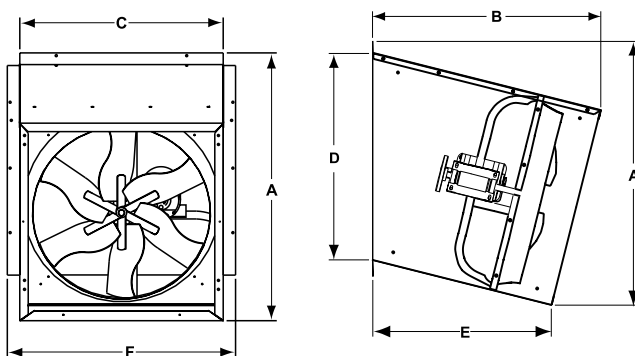

Figure 2
- To install a fan mounted in a galvanized steel slant wall housing when the wall thickness is 4" or less, provide a rectangular opening in the wall equal to dimension in Fig. 1. It is preferable to frame the opening with 2 X 4 material, or a metal frame in metal building or greenhouses. When the wall thickness is more than 4", the height of the rectangular opening should be 1 inch less than the height shown in Fig. 1 and the opening should be slanted approximately 15° as shown in Fig. 2.
- Slide the fan wall housing through the inside of the framed opening in the wall. Fasten with bolts or screws provided by the installer. Position box so the top panel slants down from horizontal. Caulk between the top flanges and the wall (see Fig. 2). Fan wall housing can also be attached to outside of framed opening utilizing the mounting flanges.